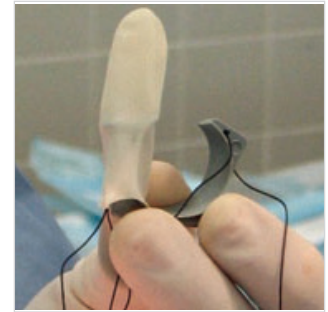

Fig. 2: Latex surgical glove is used to assist in leading the liner around the vessel.
- b) Pass 2 (0 silk recommended) sutures through each suture hole on the ends of the liner (Fig. 2).
- c) Cut the small finger from any size surgical glove (6, 7, 8) and place it over one end of the liner as a "leader" to draw the liner around vessel (Fig. 2).